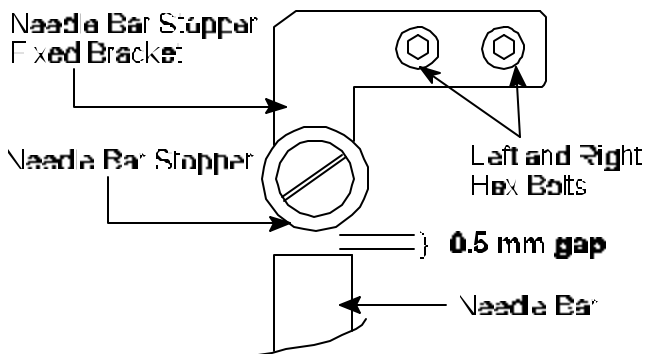

Figure 9
26. Take a business card width (0.5 mm), place between *white* roller and top of Needle Bar Assembly then secure hex bolts. See Figure 9.